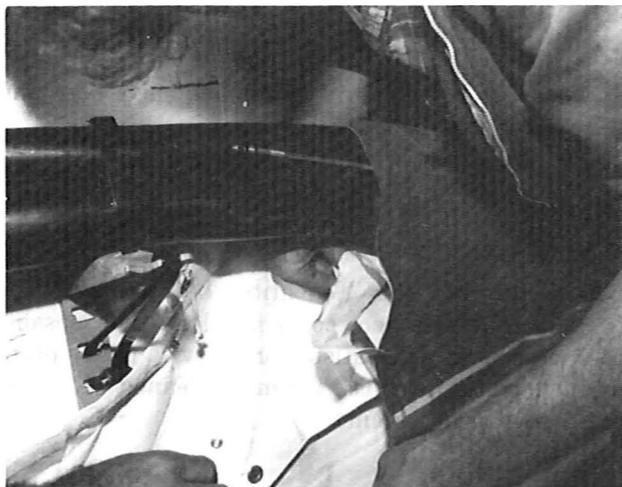

Fig. 8
3. Remove the 3 1/2-inch separator at one end of the CR tape. (See Fig. 8.)